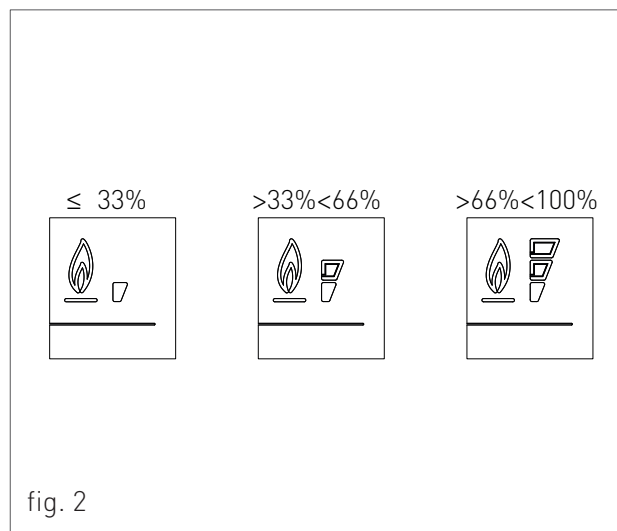

fig. 2
5. FLAME PRESENT SIGNALLING / IT ALSO INDICATES, ON 3 PERCENTAGE LEVELS, THE MODULATING POWER LEVEL OF THE WATER HEATER (fig.2)